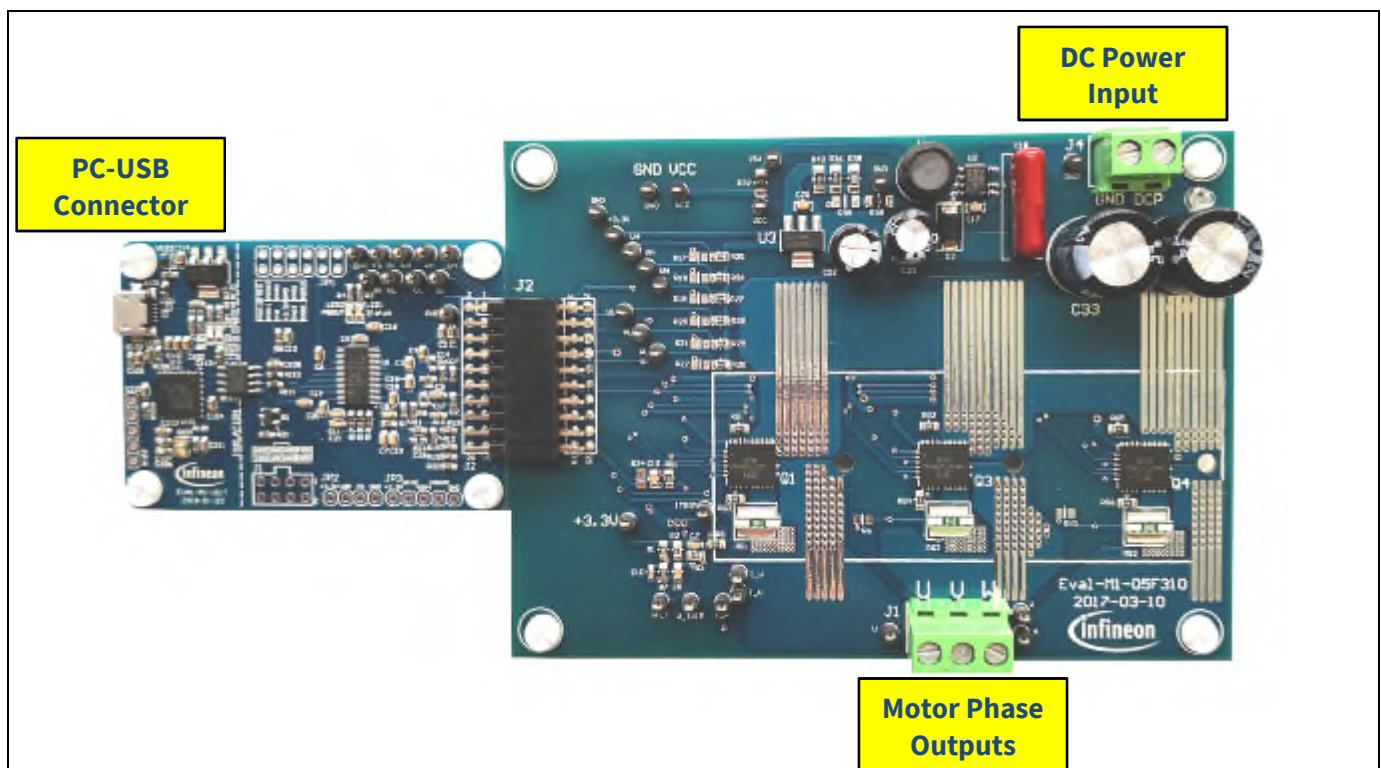

Figure 5 System connection example using EVAL-M1-101T and EVAL-M1-05F310
3. Connect EVAL-M1-101T's M1 20-pin interface connector (J2) to power board (For example EVAL-M1-05F310, see Figure 5).